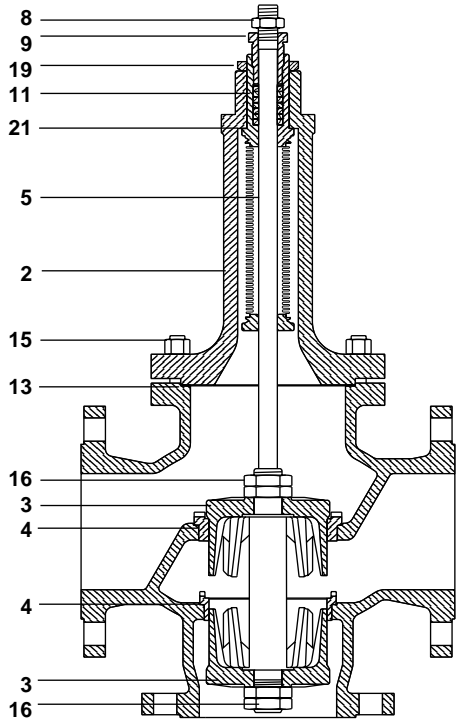

Fig. 11 Diverting valve
4.3.3 Procedure for renewing the valve plug, seats and bellows assembly on diverting valves (Refer to Figure 11):